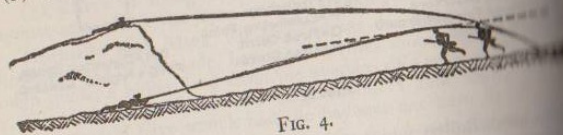

FIG. 4.
- 1. The nearer the weapon is to the ground (Fig. 4).